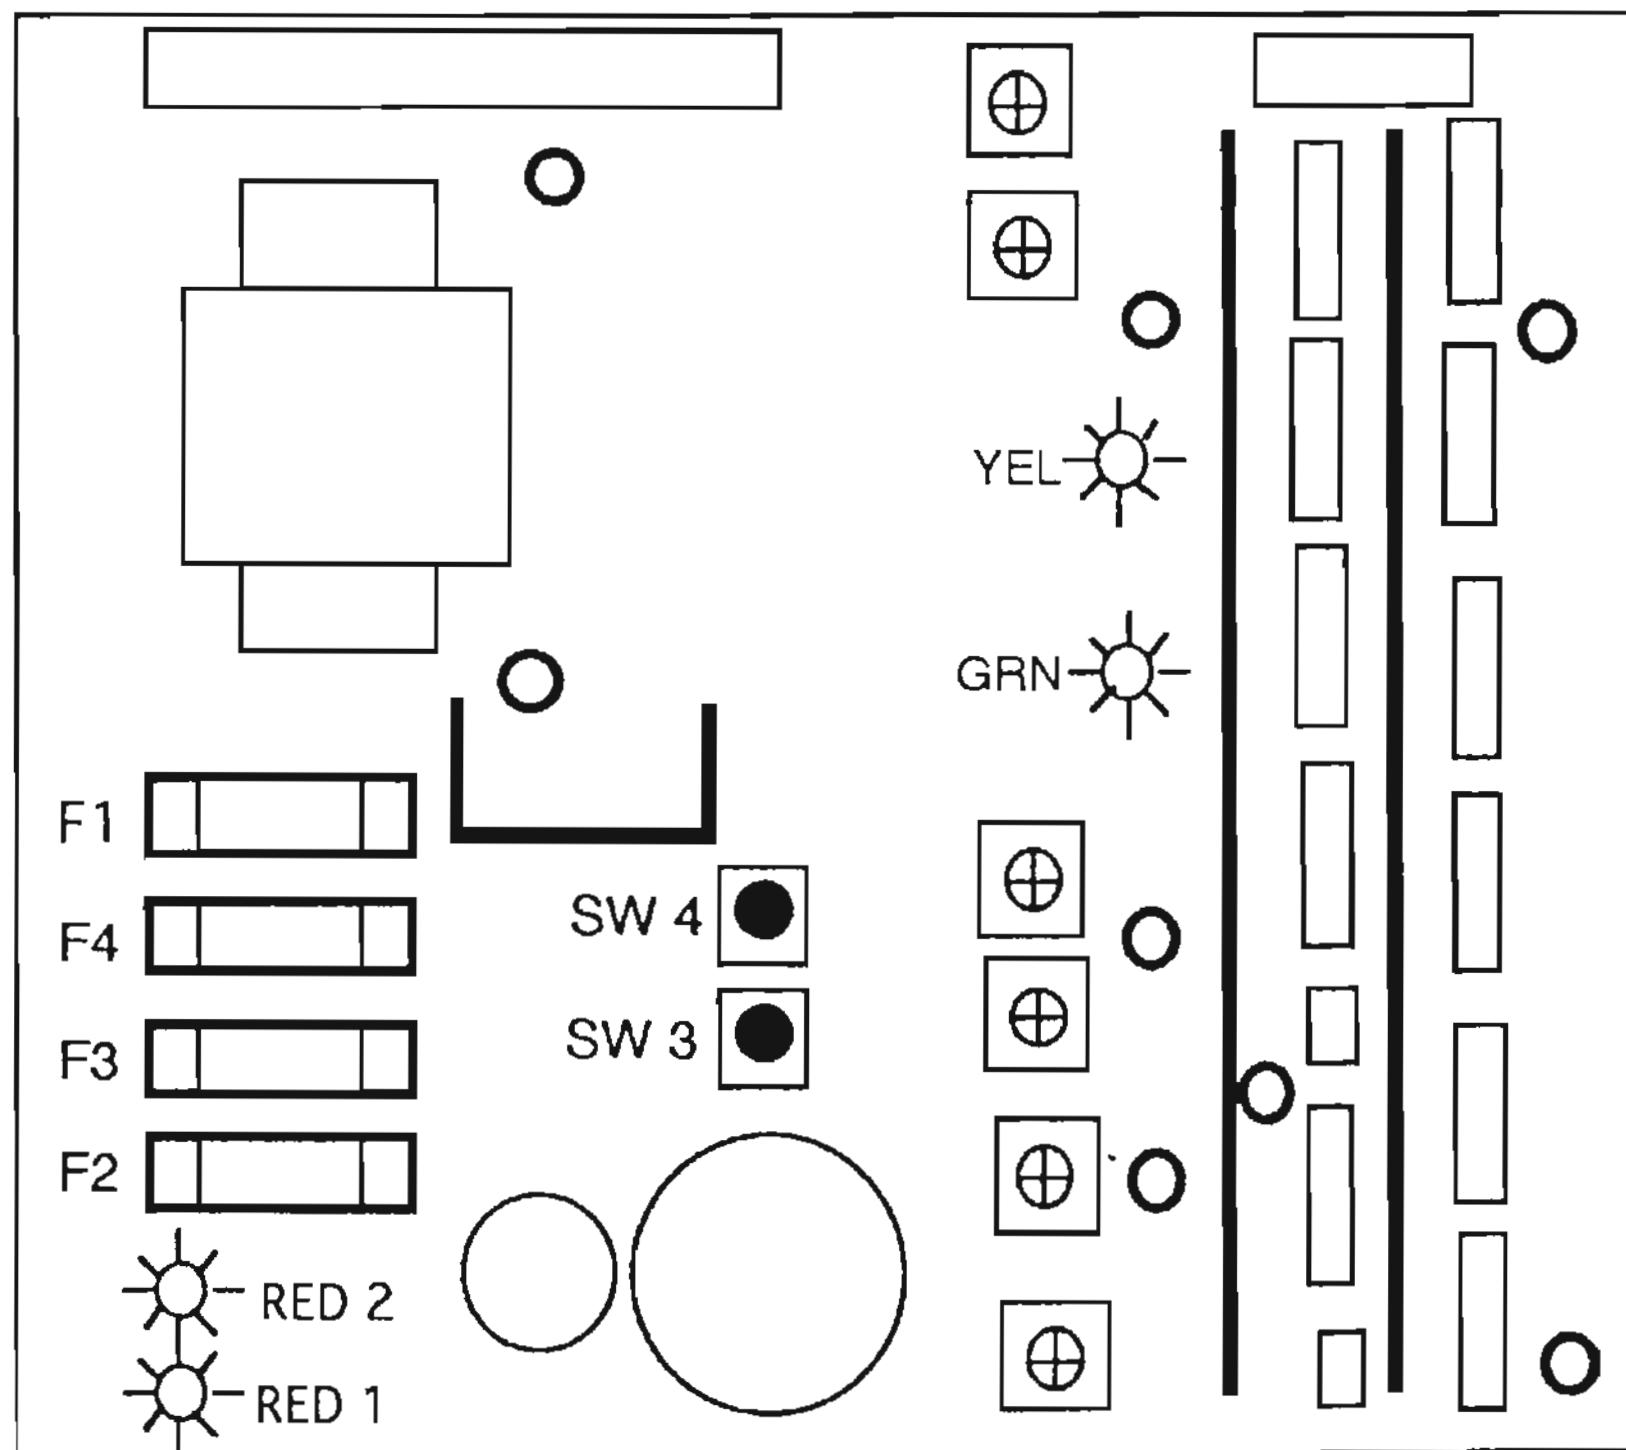

FIG 4-2
- a. Refer to FIG 4-2. This board, which is located in the right side of the rear control box, provides all weld initiation, timing, control and incoming line voltage monitoring.